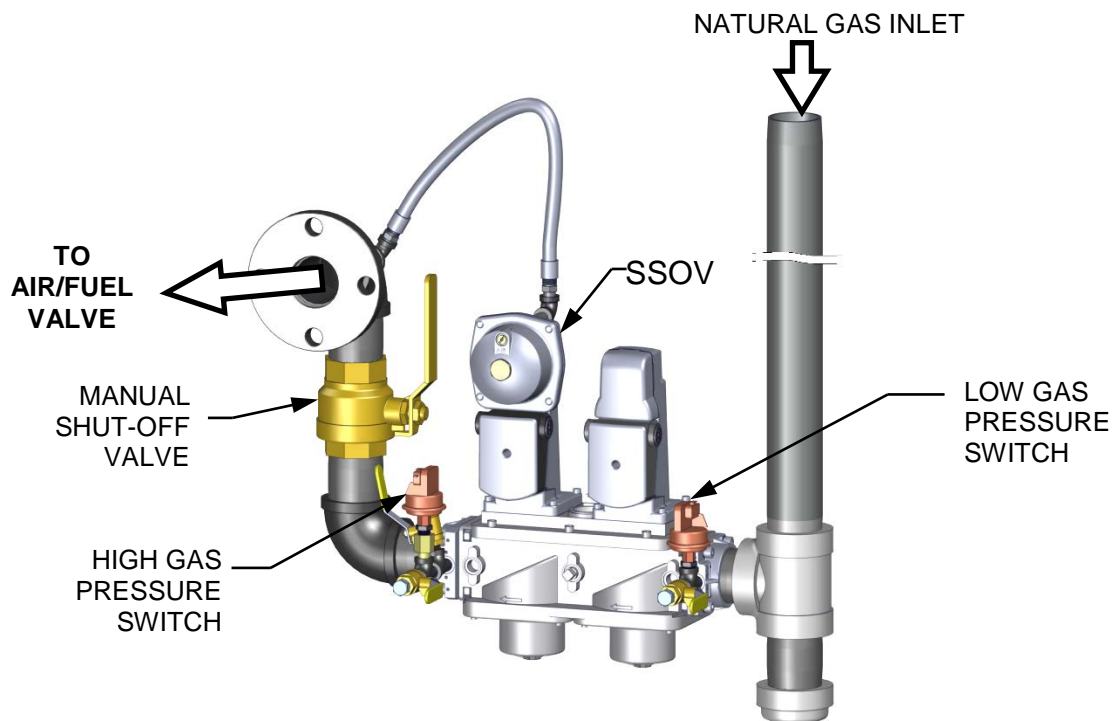

Figure 3-3: BMK 2500/3000: SSOV Location
2. The unit checks to ensure that the Proof of Closure (POC) switch in the downstream Safety Shut-Off Valve (SSOV) is closed. See Figure 3-3 for SSOV location.